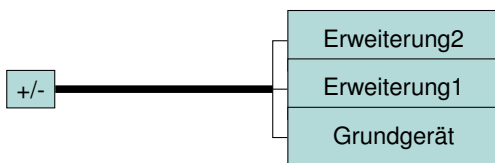

Figure 3.1.: Correct Wiring
- When installing a control system, the ground wire of power supply should be distributed as near as possible to the control (See figures 3.1 and 3.2).